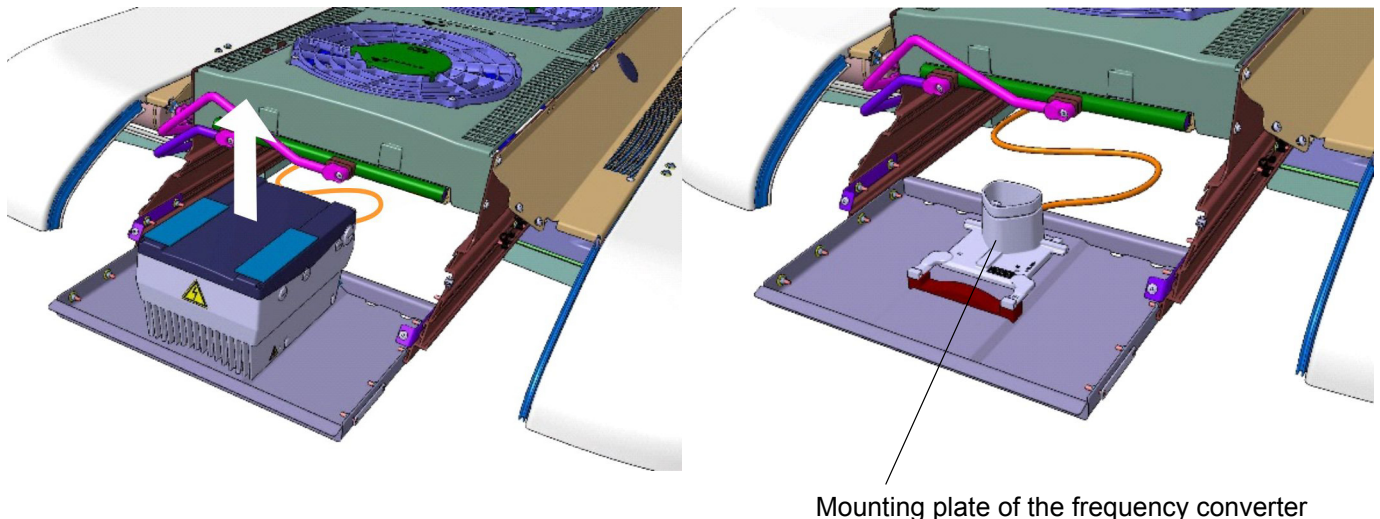

Fig. 803
- Pull the frequency converter firmly up and off the mounting plate (Fig. 803).
(Fig. 803), the collar of the plate will dip into opening in the bottom of the heat sink of the frequency converter.